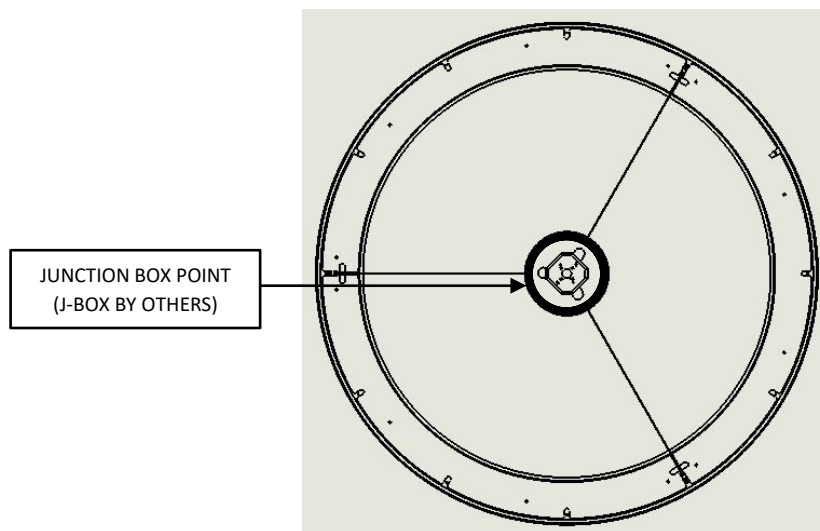

FIG. 22 - TOP VIEW SHOWING MOUNTING VIEW
1. Mark location for the NON-POWERED MOUNTING POINT according to the MOUNTING INFORMATION TABLE and FIG. 22.